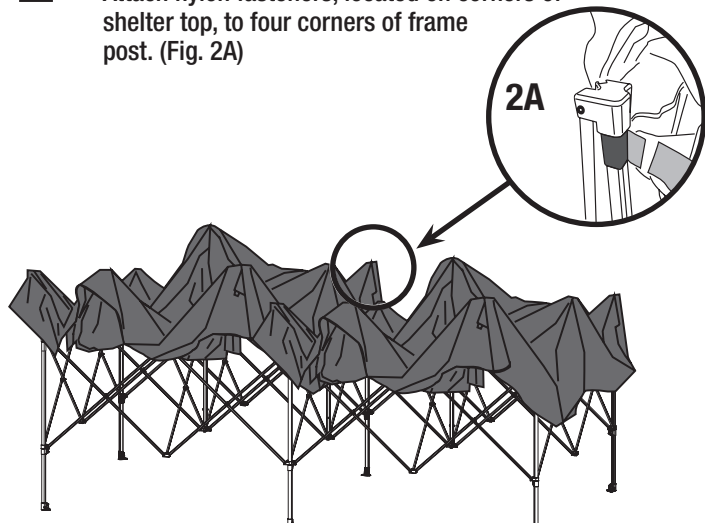

Fig. 2
- Drape shelter top over frame. (Fig. 2)